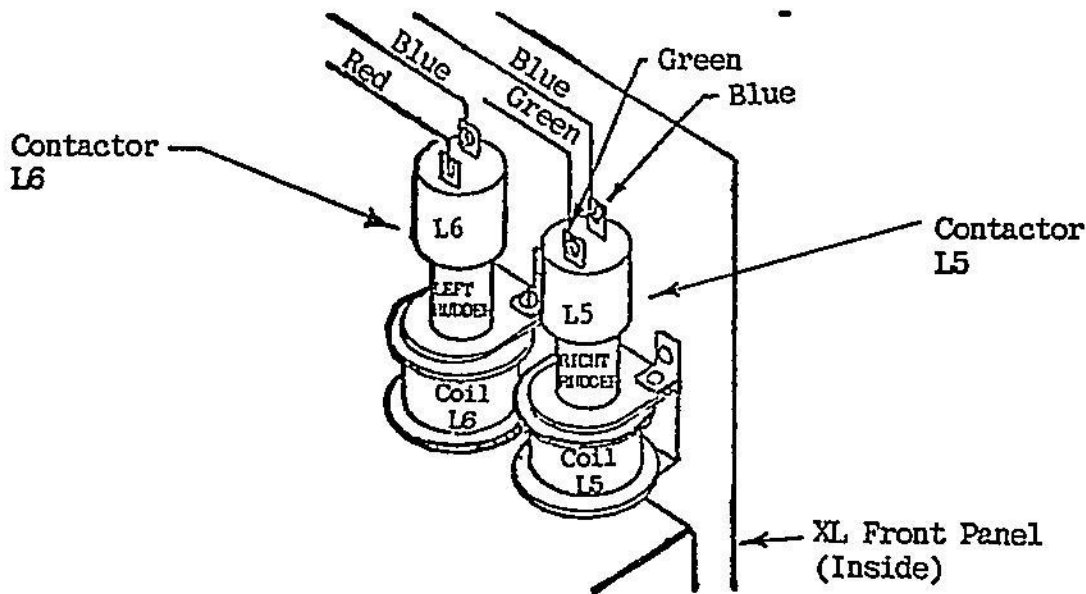

Fig. 7
14B - Remove the green wire from contactor L5. (Fig. 7)
STEP 16 - Jumper across the GREEN and BLUE wires on top of mercury contactor L5. (Fig. 7, Page 6)
STEP 17 - Jumper RED and BLUE wires on mercury contactor L6. (Fig. 7, Page 6)